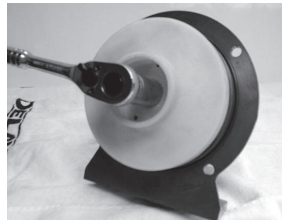

Fig. 2
2. Remove the impeller nut using a 3/4" socket. Hold the impeller from turning by using a screwdriver in vanes of the impeller. Fig. 2.